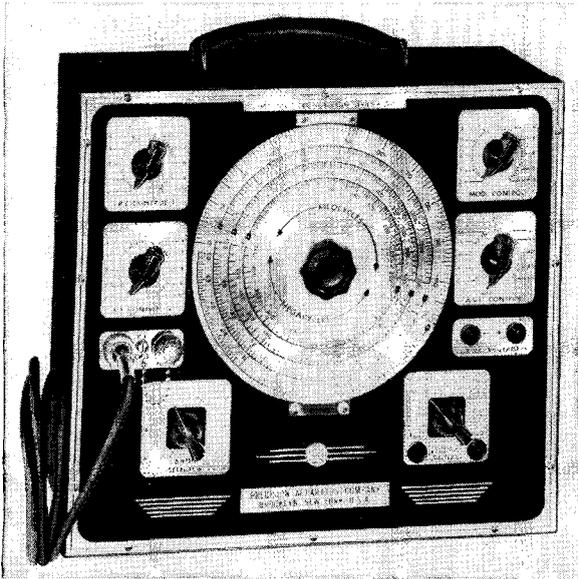

FIG. 6-4. The Precision signal generator, series E-200.
**The Precision E-200 signal generator.** In the Precision signal generator, the usual tuning dial is found in the upper center part of the front panel (see Fig. 6-4). Frequency coverage from 90 kc to 22 megacycles is performed in six bands, indicated as A, B, C, D, E, and F. The BAND